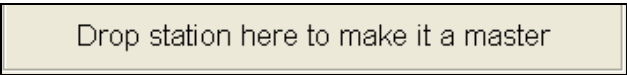

Figure 16.4.46C
- To return a Slave station back to a Master just click on the slave and drag it to the bottom of the “Sensor Assignment” window. Release the mouse button when your cursor is on top of **Drop station here to make it a master** button (Figure 16.4.46C).